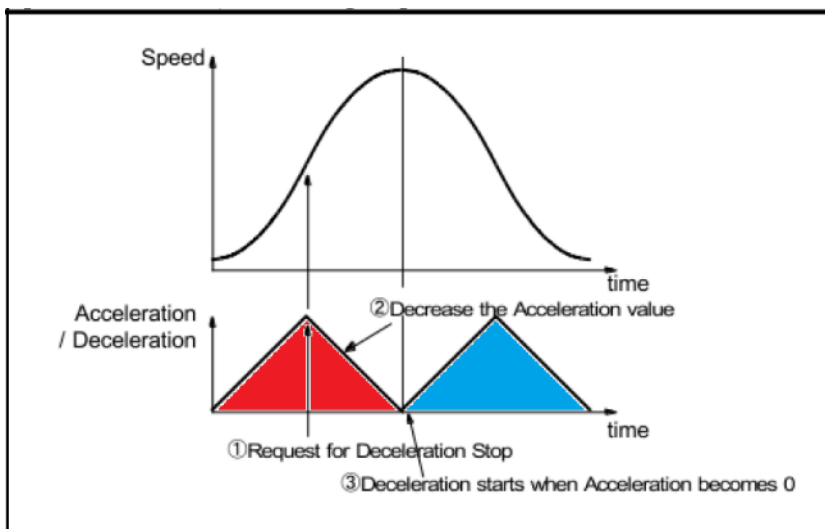

Figure 1
(II). After reaching the maximum speed (③ or blue section as below figure 1) : The deceleration starts (or continues) with specified DC and S factor, and the motion stops when the speed reaches VS.